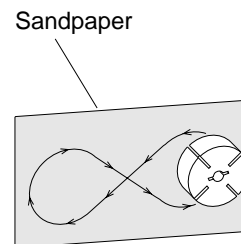

Figure 29 - Sanding Rotor
14. Place fine grade sandpaper (600 grit) on flat surface. Sand rotor lightly in "figure 8" motion four times (see Figure 29).